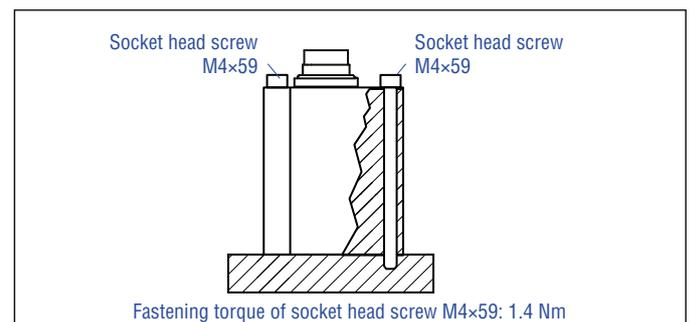

Fig. 21: Mounting with socket head screws M4×59
3. Mount the sensor electronics housing using the three M4×59 hexagon socket screws made of non-magnetic material. Tightening torque: 1.4 Nm (Fig. 21). Secure the screws before installation, e.g. with Loctite 243. Remove the three knurled nuts beforehand.
- Mount the sensor electronics housing to the sensor rod or HFP profile using three M4×59 hexagon socket screws made of non-magnetic material: Tightening torque: 1.4 Nm (Fig. 21). Secure the screws before installation, e.g. with Loctite 243. Remove the three knurled nuts beforehand.
- Mount the sensor via flange using the three M4×59 hexagon socket screws made of non-magnetic material. Tightening torque: 1.4 Nm (Fig. 21). Remove the three knurled nuts beforehand.